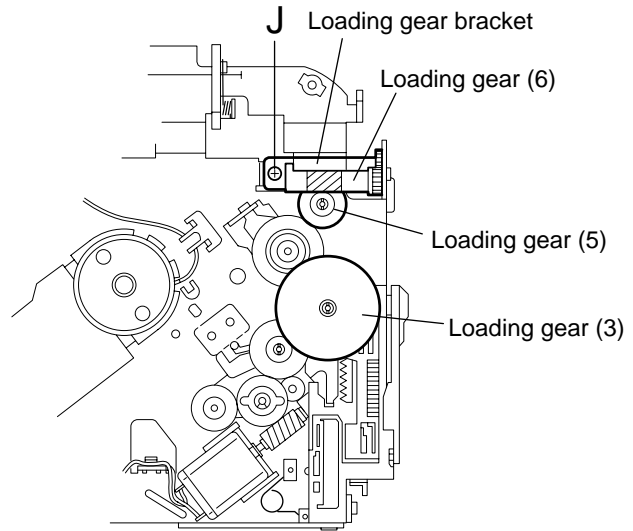

Fig.31
■ **Removing the loading gear (5), (6) and (7) (See Fig.31 and 32)**
1. Remove the screw **J** attaching the loading gear bracket. The loading gear (6) and (7) come off the loading gear bracket.
2. Pull out the loading gear (5).